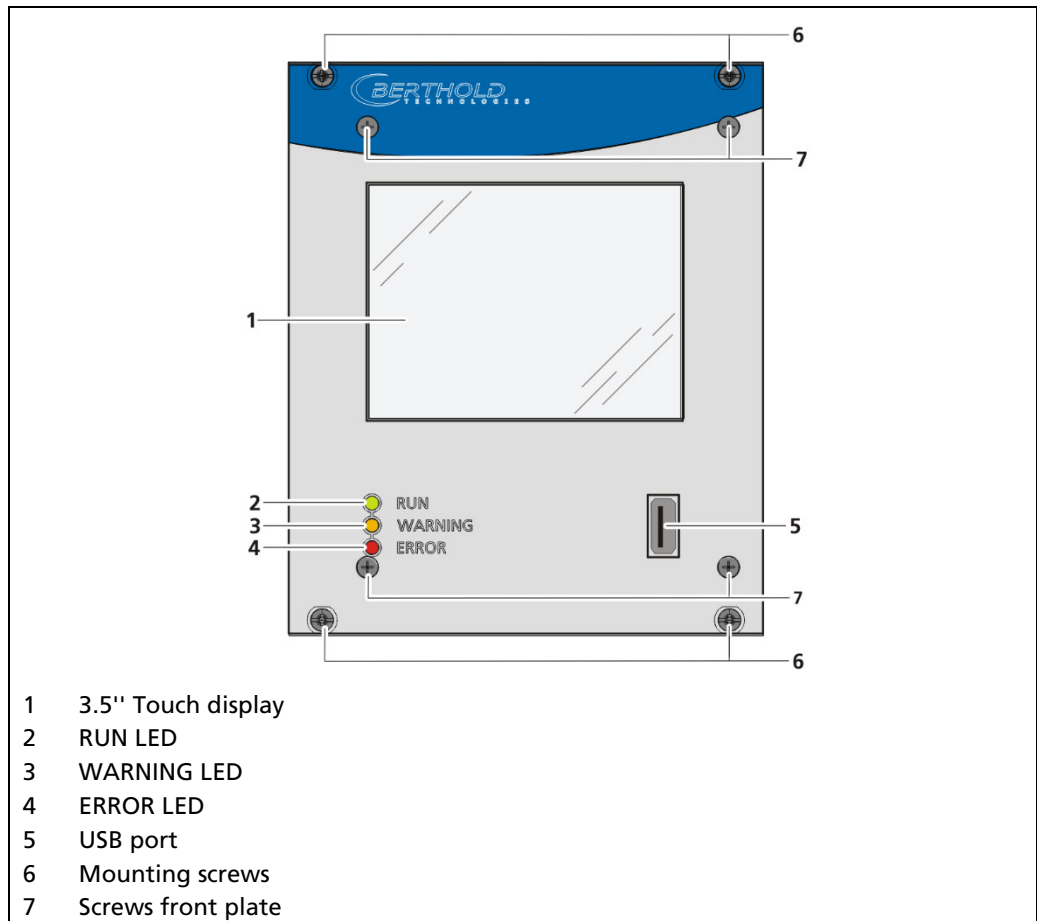

Fig. 4 Front view of the master EVU
The LEDs (Fig. 4, items 2-4) below the touch display show the current operating status of the master EVU.